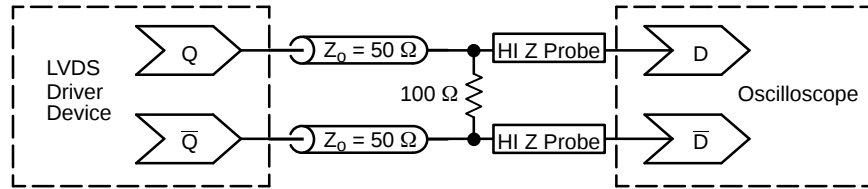

Figure 20. Typical LVDS Termination for Output Driver and Device Evaluation
5. LVDS outputs require 100 Ω receiver termination resistor between differential pair. See Figure 20.
12. Measured by forcing $V_{INPPmin}$ with 50% duty cycle clock source and $V_{CC} - 1400 \text{ mV}$ offset. All loading with an external $R_L = 100 \Omega$. Input edge rates 150 ps (20%–80%). See Figure 20.